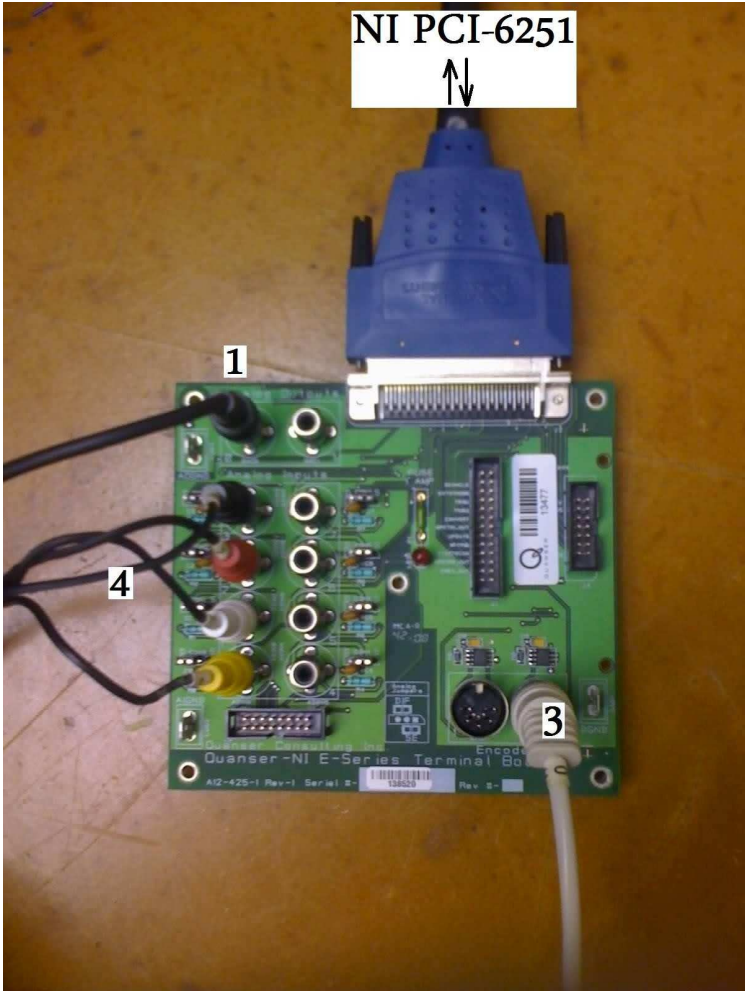

Figure 4.1: Quanser NI terminal Board.
- (b) Another minor difference is that Quanser-NI Terminal Board will be connected to NI PCI-6251 using the NI cable with a 68-pin blue connector lying on the bench. Figure 4.1, which is to replace Figure 21 in [1], shows Quanser-NI Terminal Board and the connections.